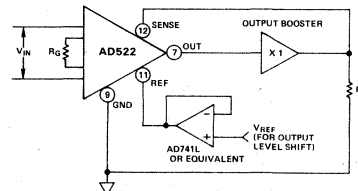

Figure 7. Output Current Booster and Buffered Output Level Shifter
**Sense Output:** A sense output is provided to enable remote load sensing or use of an output current booster. Figure 7 illustrates these applications. Being "inside the loop", booster drift errors are minimized. When not used, the sense output should be tied to the output.
**Reference Output:** The reference terminal is provided to permit the user to offset or "level shift" the output level to a datum compatible with his load. It must be remembered that the total output swing is  $\pm 10$  volts to be shared between signal and reference offset. Furthermore, any reference source resistance will unbalance the CMR trim by the ratio  $10\text{k}/R_{\text{ref}}$ . For example, if the reference source impedance is  $1\Omega$ , CMR will be reduced to  $80\text{dB}$  ( $10\text{k}\Omega/1\Omega = 10,000 = 80\text{dB}$ ). A buffer amplifier can be used to eliminate this error, as shown in Figure 7, but the drift of the buffer will add to output offset drift. When not used, the reference terminal should be grounded.